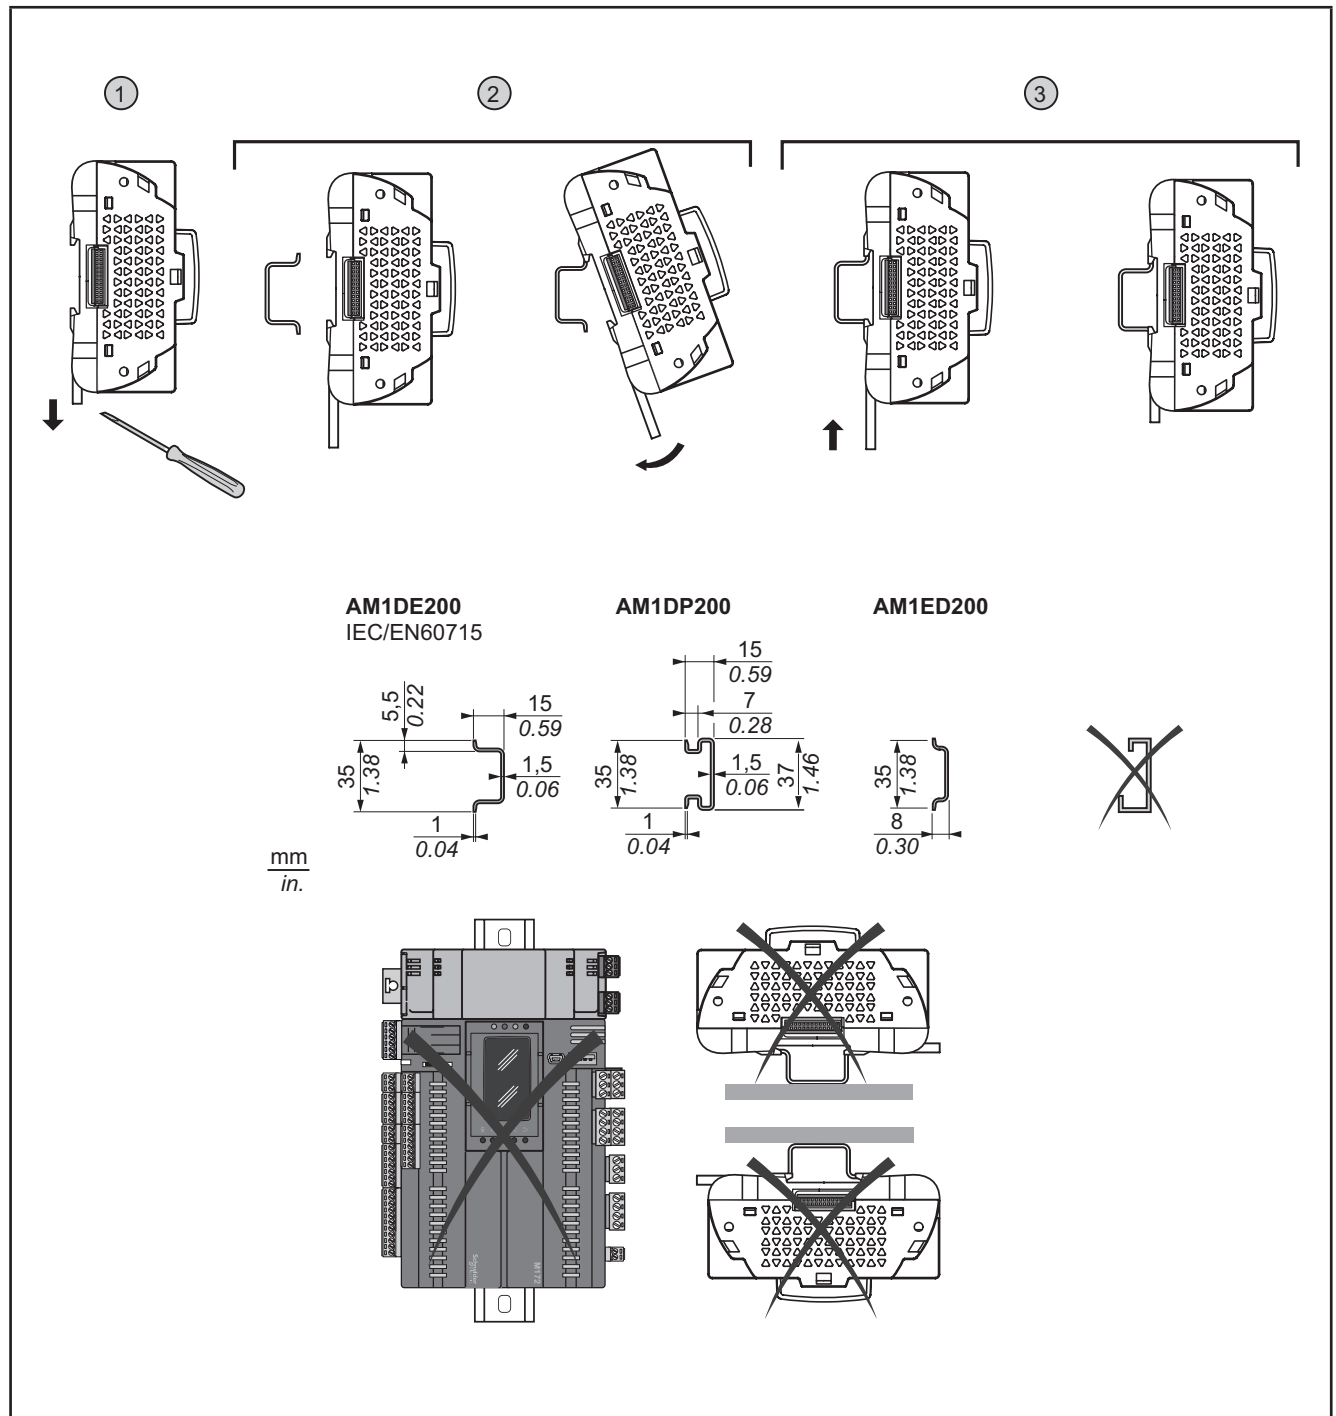
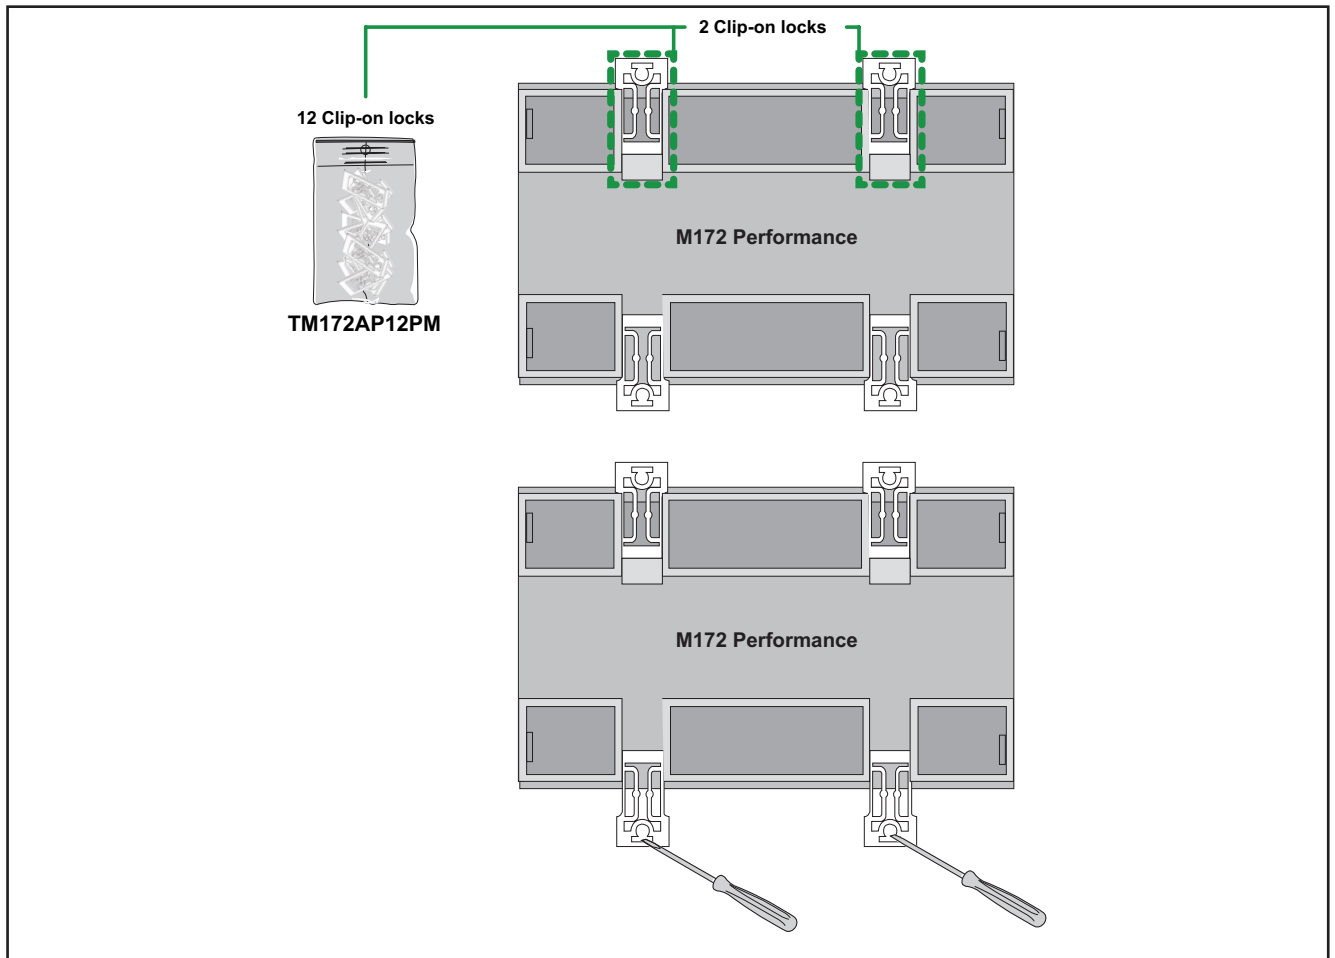
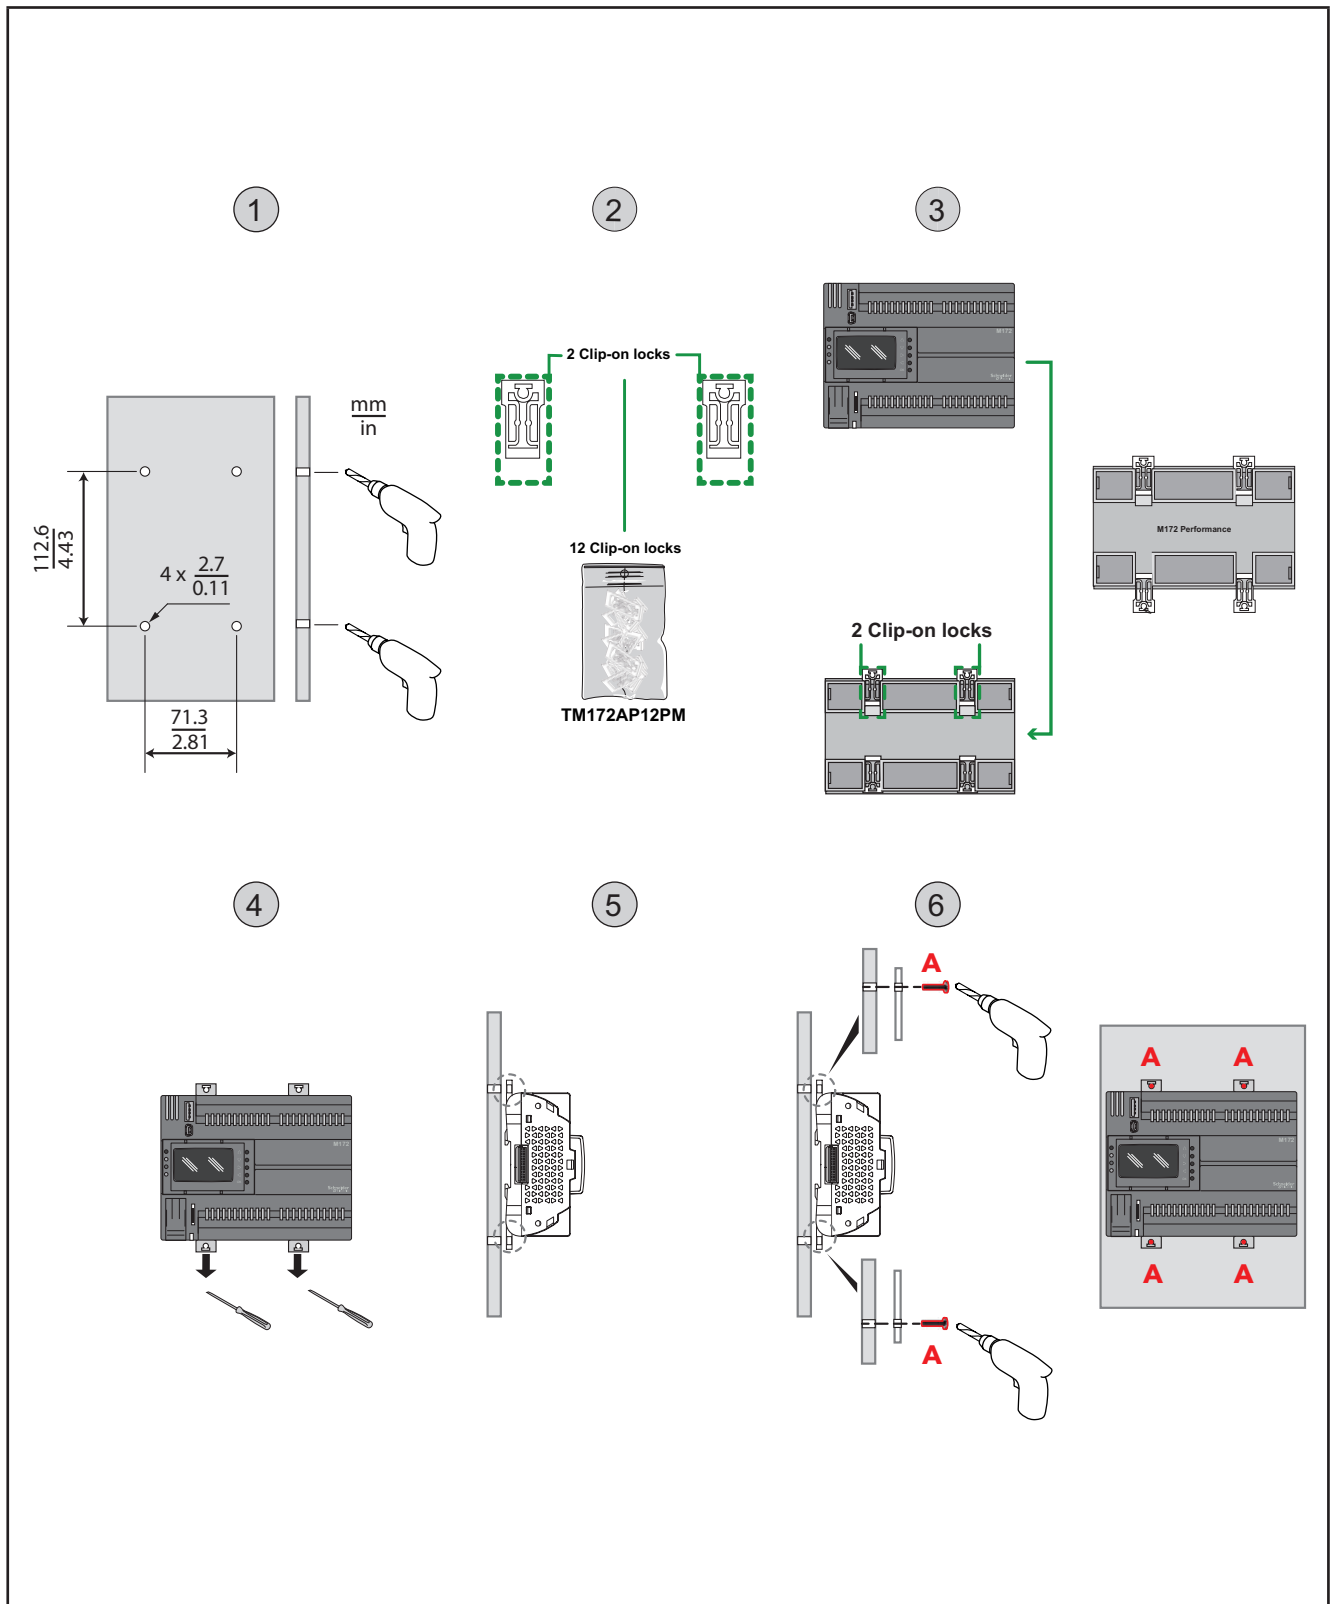

Fig. 6. M172 Performance DIN rail mounting
Fig. 8. Details of clip-on locks
Fig. 9. M172 Performance panel mounting
The equipment is intended for 8DIN rail mounting (see **Fig. 6 on page 21** and **Fig. 8 on page 23**).
The equipment is also intended for panel mounting (see Fig. 8 on page 23 and Fig. 9 on page 24).
1. Make four holes in the panel (for the distance between holes and hole diameter, see Fig. 9 on page 24).